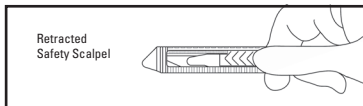

Figure 4
- To retract the safety scalpel blade, place thumb on scalpel handle as shown below and apply pressure until the scalpel blade retracts (Figure 4).